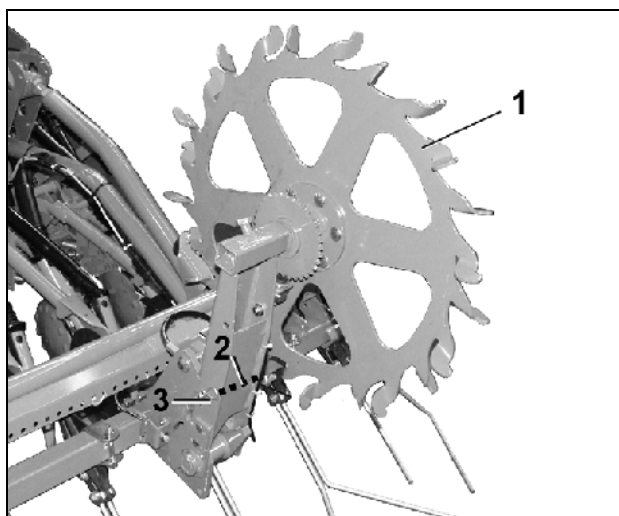

Fig. 113
- Briefly lift the star wheel by hand (Fig. 113/1), slacken the lynch pin (Fig. 113/3) pull out the pin (Fig. 113/2) and lower the star wheel.